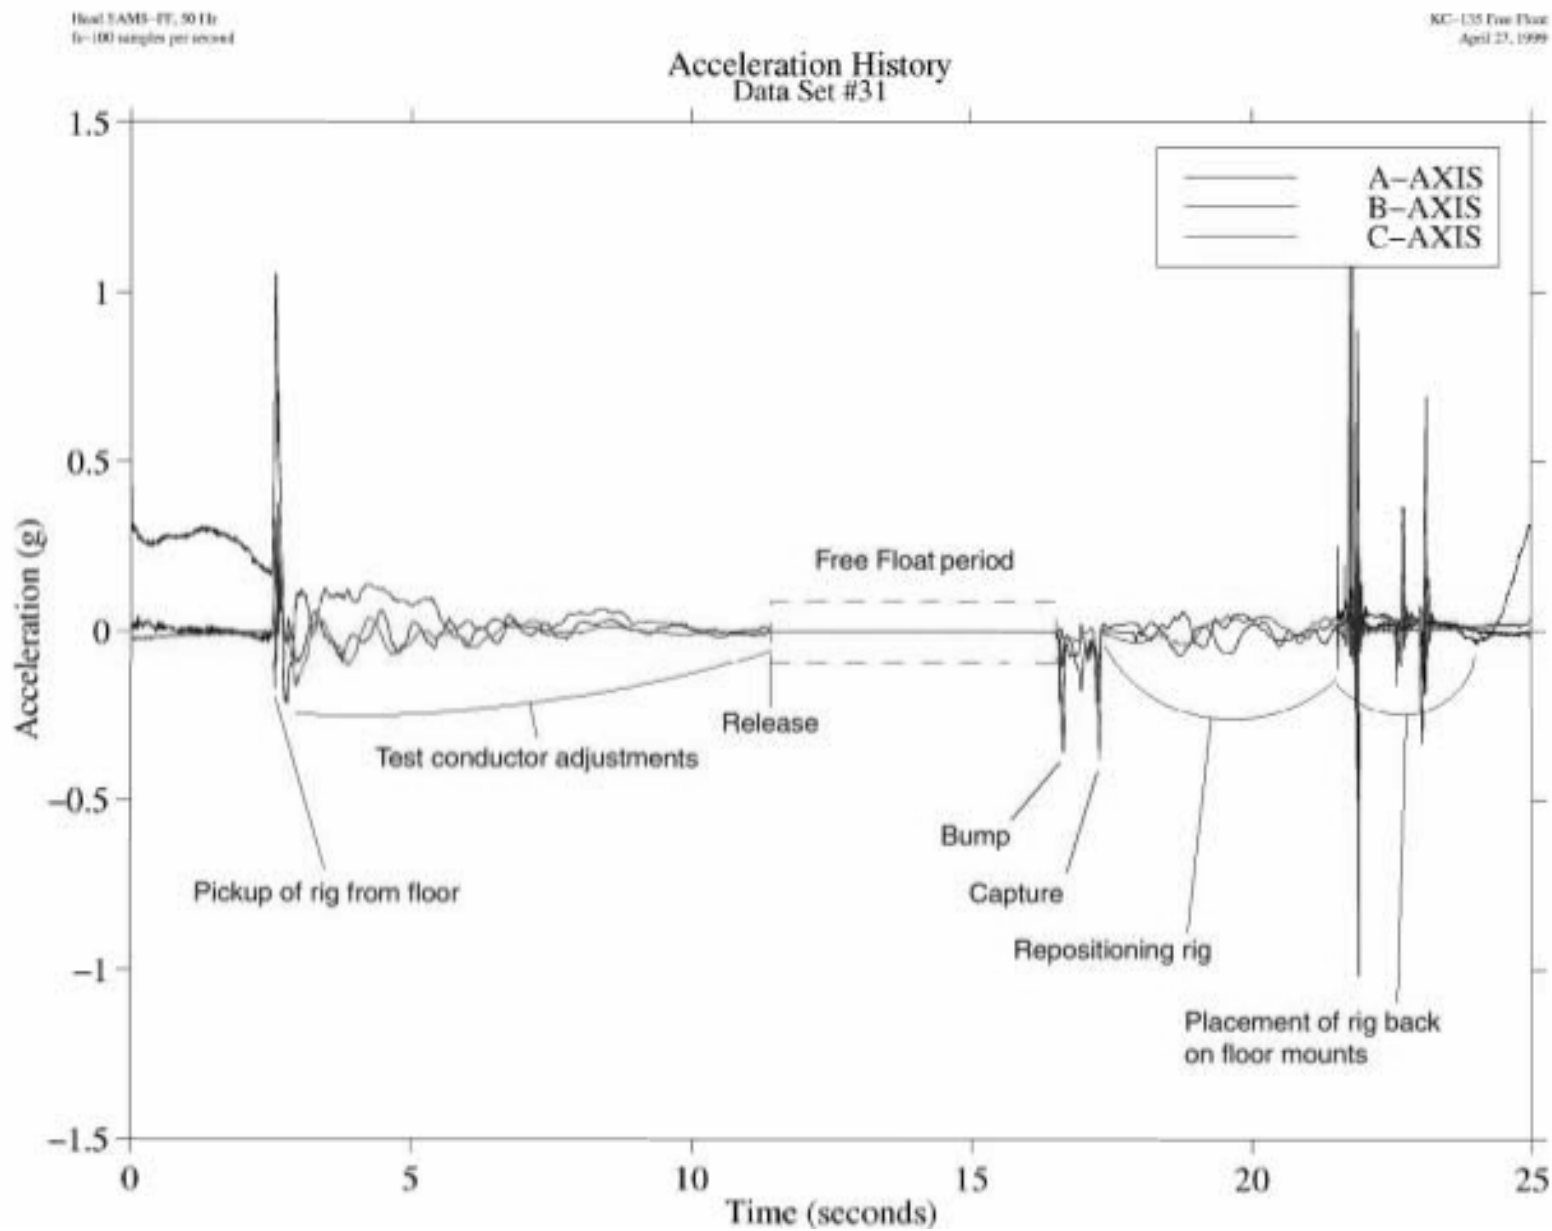

Figure 7 - Acceleration environment for parabola in which an experiment was free-floated
- **Figure 7 is the acceleration environment of a KC-135 parabola for the Spread Across Liquids (SAL) experiment.**